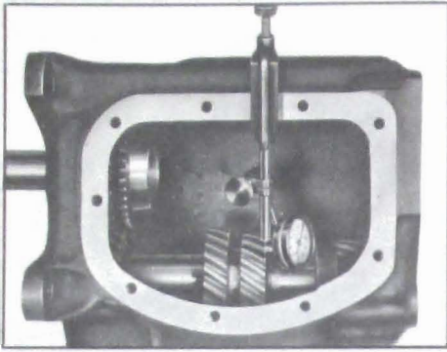

Figure 4-74—Checking Countergear End Play
7. Attach a dial indicator as shown in Figure 4-74, and check the end play of the countergear. End play must not be more than .025".